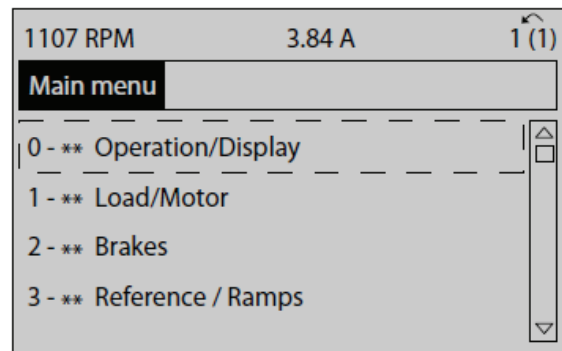

Fig. 24 — Main Menu
2. Press the navigation keys to scroll to parameter group 0-** Operation/Display and press [OK]. See Fig. 24 for Main Menu illustration.